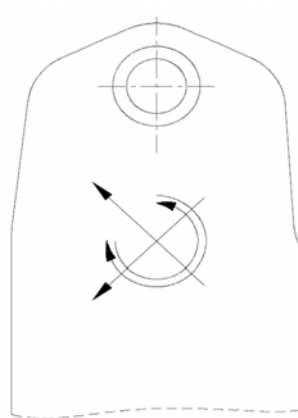

Figure 3.
- 10.4 Sand the flat face of the spar, vertical stabilizer so that the plate and bearing will sit flush on the surface when bolted on. Use a flat block with 80 grit sand paper. Remove the circular rise around the bearing bore as shown in Figure 3. Do not cut into fibres, only remove excess resin.